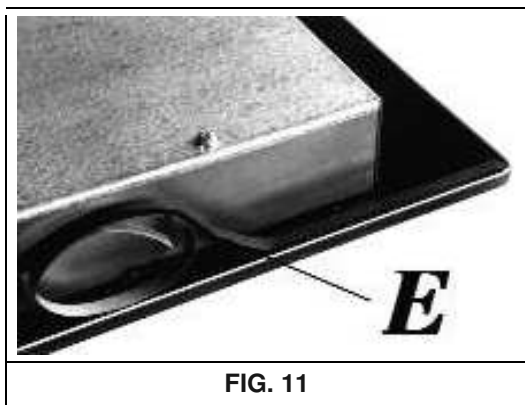

FIG. 11
- Turn over the cooktop and correctly arrange adhesive surface of gasket "E" (Fig. 11) under the cooktop edge so that external edge of the gasket aligns with the cooktop perimeter edge. External edges of the strips shall mate without overlapping.